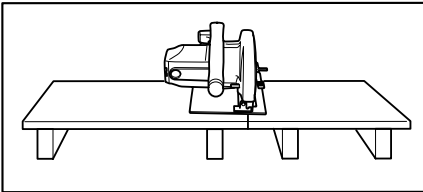

Fig. 1
8. Support Large Panels (Fig. 1 & 2). Large panels must be supported as shown in Fig. 1 to minimize the risk of blade pinching and kickback.
10. Guard Against Kickback. (Fig. 1 & 3) Kickback occurs when the saw stalls rapidly and is driven back towards the operator. Release switch immediately if blade binds or saw stalls. Keep blades sharp. Support large panels as shown in Fig. 1. Use fence or straight edge guide when ripping. Don't force tool. Stay alert-exercise control. Don't remove saw from work during a cut while the blade is moving. NEVER place your hand or fingers behind the saw. If kickback occurs, the saw could easily jump backwards over your hand, possibly causing severe injury.